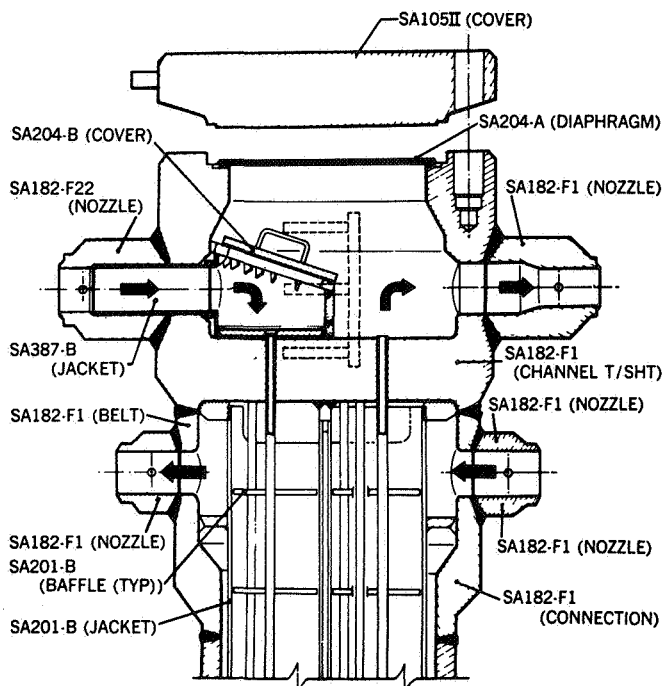

Figure 6. Synthesis boiler feed water heater.
1. Synthesis loop boiler feed exchanger—leak at tube-tube sheet weld, Figure 6.